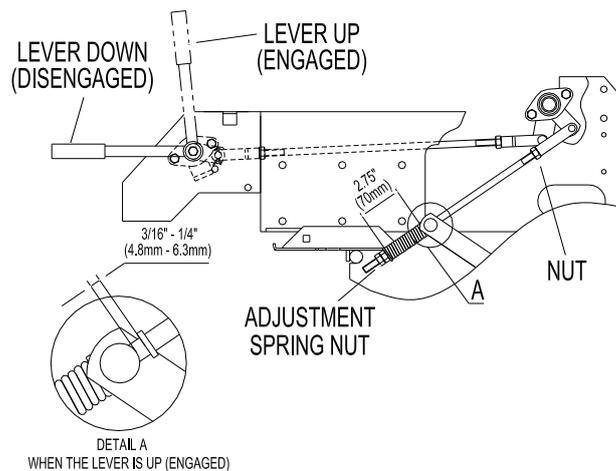

FIG 9
- b) Measure the length of the spring. Measurement should be 2.75" (70mm) between washers (see Figure 9).
- c) Measure the distance between the trunnion roller and the rod collar as shown in Figure 9. Measurement should be 3/16" (5mm) with shim gauge.